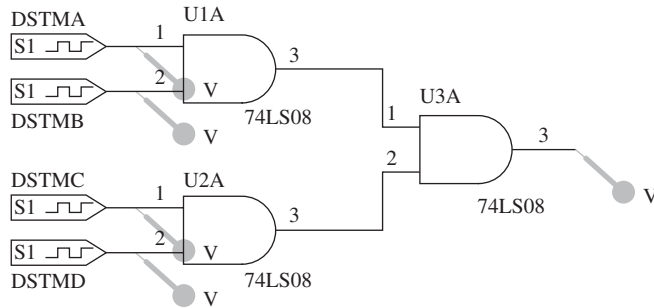

FIGURE 10.68 PSpice digital logic circuit for Example 10.23.
1. Use the Part reference in Table 10.33 and follow the steps in Example 10.22 to set up a PSpice digital logic circuit, as shown in Figure 10.68.